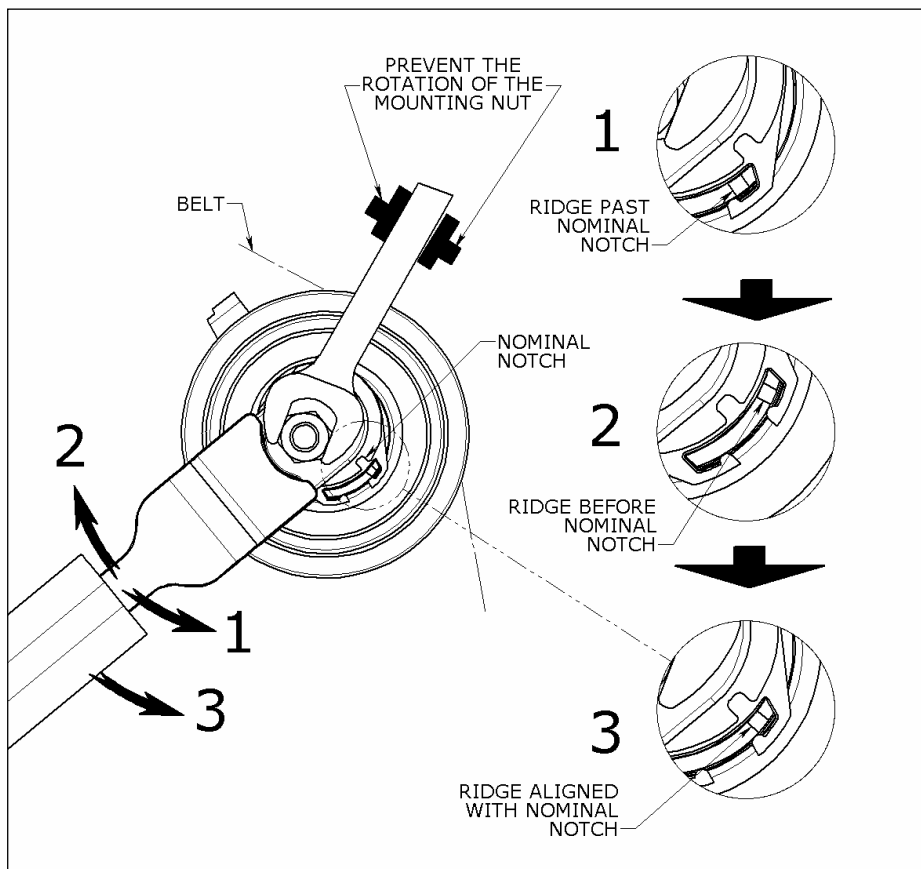
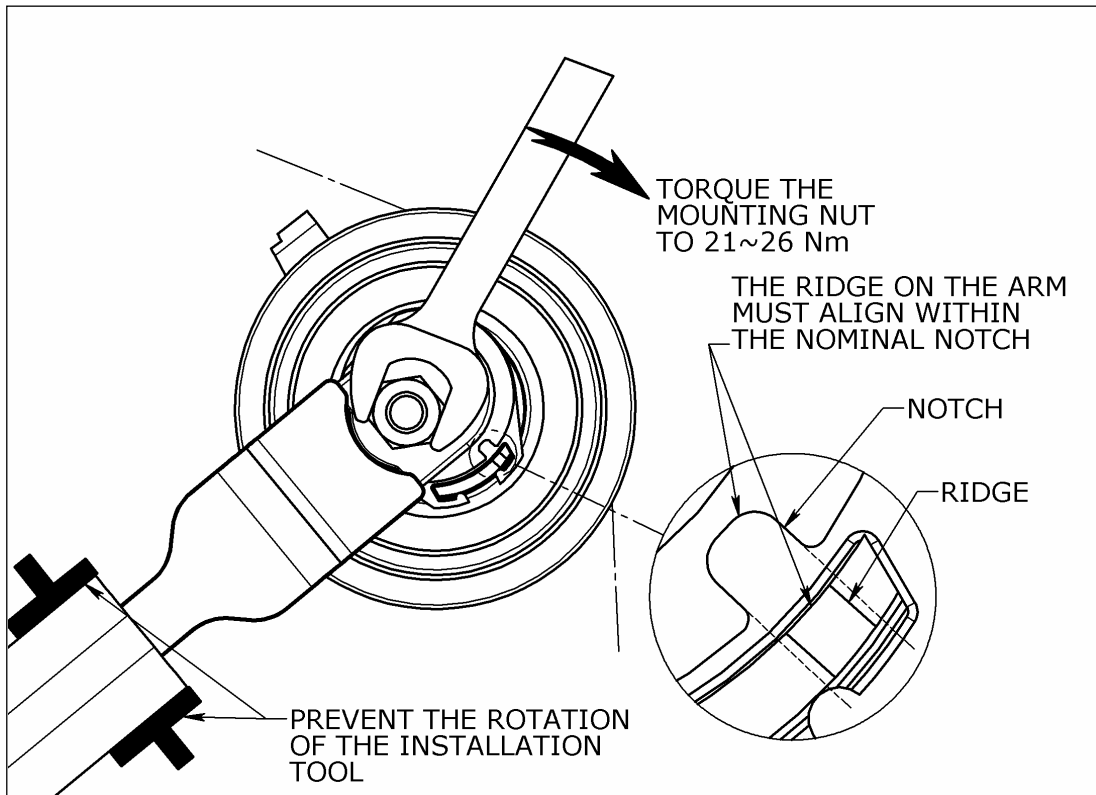

Figure 5: Tensioner Cycled before setting to Nominal Position
Figure 6: Tensioner Torqued at the Nominal Position
8. Using a 13mm wrench to prevent the rotation of the mounting nut, rotate the Installation Shaft **COUNTERCLOCKWISE** with the 2-Pin Installation Tool (Fig. 5). The tensioner assembly will move against the belt and the Alignment Ridge on the arm will eventually start to move **CLOCKWISE**.
9. Continue rotating the installation shaft in the counterclockwise direction **1** (Fig 5) so that
the ridge passes the nominal notch and stops as shown in Detail **1** (Fig. 5). Then rotate the installation shaft in the clockwise direction **2** (Fig. 5) to have the ridge pass the nominal notch and stop as shown in Detail **2** (Fig. 5). After cycling the tensioner as mentioned, rotate the installation shaft in the counterclockwise only direction **3** (Fig. 5) so the ridge aligns within the edges of the nominal notch (Fig. 6).
If the 2 edges of the arm Alignment Ridge is within the Alignment Notch on the front plate (Fig. 6), the tensioner is set at its nominal position and the installation is complete.
15. Prevent the mounting nut from rotating and cycle the installation shaft so that the ridge cycles through the nominal position (Fig. 5) and then rotate the Installation Shaft COUNTERCLOCKWISE only until the arm Alignment Ridge moves clockwise to align within the Notch on the front plate (Fig. 6).